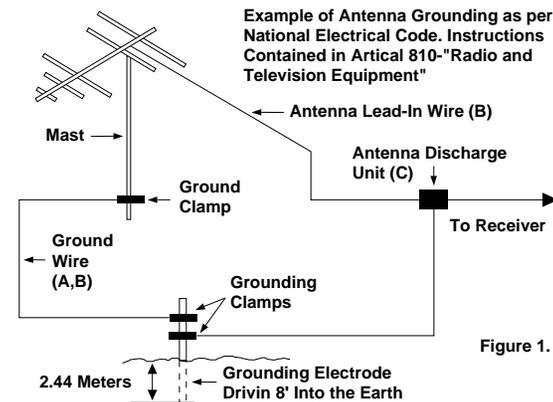

Figure 1.
**Outdoor Antenna Grounding:** If an outside antenna is connected to the receiver, be sure the antenna system is grounded so as to provide some protection against voltage surges and built up static charges. Section 810 of the National Electrical Code, ANSI/NFPA no. 70-1993, provides information with respect to proper grounding of the mast and supporting structure, grounding of the lead-in wire to an antenna discharge unit, size of grounding conductors, location of antenna-discharge unit, connection to grounding electrodes, and requirements for the grounding electrode. See figure 1.